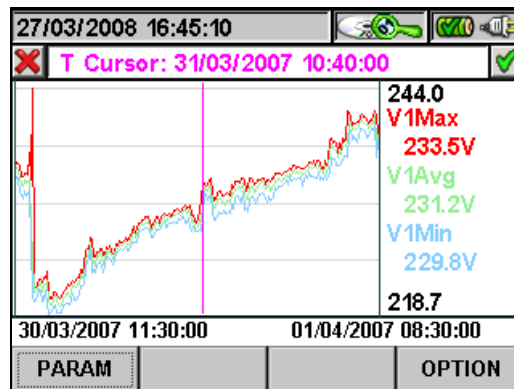

Fig. 92: Recording graph
- The **ENTER** key (or the smart icon on the display) confirms the selection previously made and displays the graph of the selected parameter (Fig. 92)